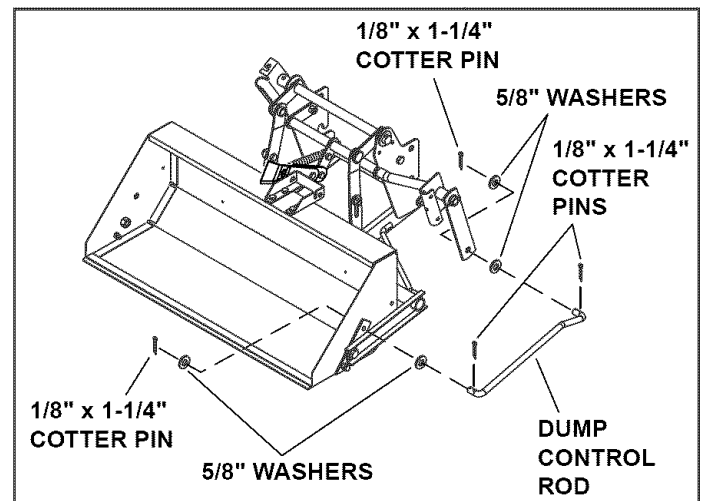

FIGURE 8
- Install a 1/8" x 1-1/4" cotter pin into the inside hole in each end of the dump control rod. Spread the ends of the cotter pins and wrap around the rod. Install a 5/8" washer onto each end of the control rod. See figure 8.
- Install the dump control rod to the dump pivot bracket and bucket. Fasten using two 5/8" washers and 1/8" x 1-1/4" cotter pins. Spread the ends of the cotter pins and wrap around the rod. See figure 8.